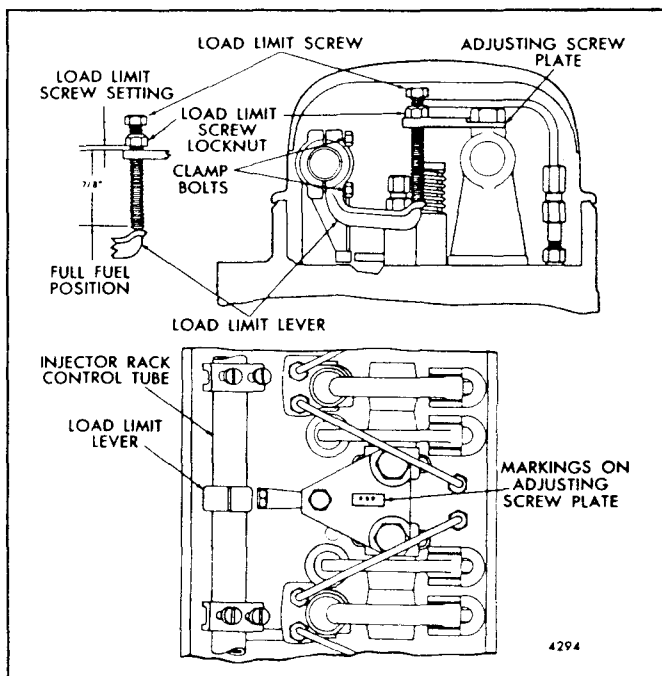

Fig. 1 - Engine Load Limit Device
After the engine tune-up is completed, make sure the load limit device is properly installed as shown in Fig. 1. Make sure the counterbores in the adjusting screw plate are up. The rocker arm shaft bracket bolts which fasten the adjusting screw plate to the brackets are tightened to 50-55 lb-ft torque. Then adjust the load limit device, on each cylinder head, as follows:
3. Adjust the load limit screw lock nut so the bottom of the lock nut is $7/8$ " from the bottom of the load limit screw (Fig. 1) for the initial setting.